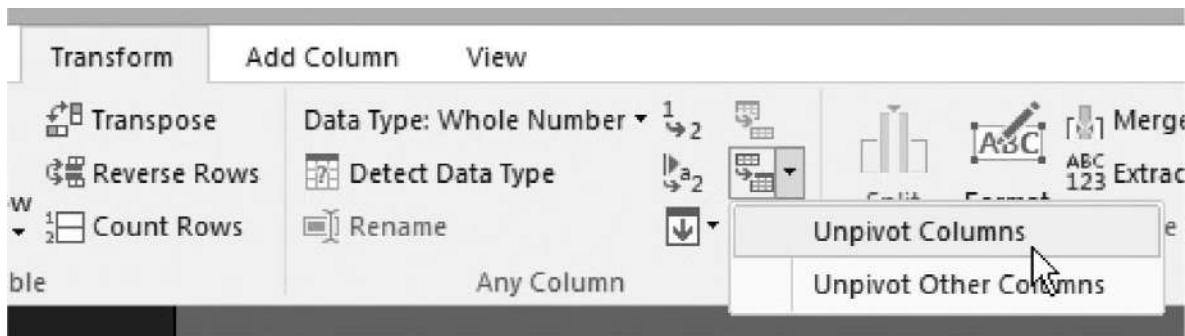

Figure 15-24 The Unpivot button on the Transform tab of the ribbon
14. On the Transform tab of the ribbon, select Unpivot Columns as shown in Figure 15-24 . The columns are unpivoted to create rows with new columns called Attribute and Value. The items in the Attribute column were the column names before the pivot. The figures in the Value column were the contents of those columns before the pivot.